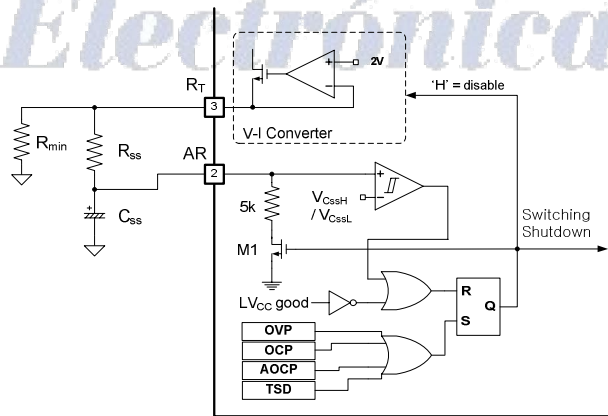
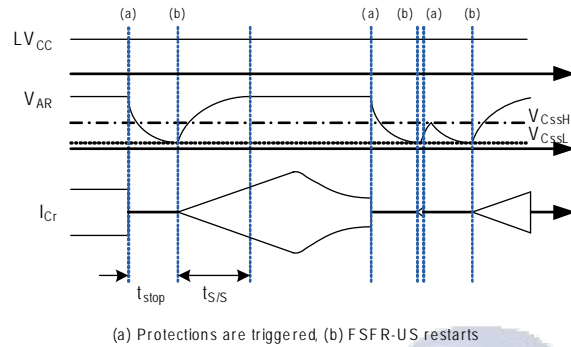

Figure 20. Internal Block of AR Pin
Figure 21. Self Auto-Restart Operation
**4. Self Auto-Restart:** The FSFR-US series can restart automatically even though any built-in protections are triggered with external supply voltage. As can be seen in Figure 20 and Figure 21, once any protections are triggered, M1 switch turns on and V-I converter is disabled.  $C_{SS}$  starts to be discharged until  $V_{C_{SS}}$  across  $C_{SS}$  drops to  $V_{C_{SSL}}$ . Then, all protections are reset, M1 turns off, and V-I converter resumes at the same time. The FSFR-US starts switching again with soft-start. If the protections occur while  $V_{C_{SS}}$  is under  $V_{C_{SSL}}$  and  $V_{C_{SSH}}$  level, the switching is terminated immediately,  $V_{C_{SS}}$  continues to increase until reaching  $V_{C_{SSH}}$ , then  $C_{SS}$  is discharged by M1.